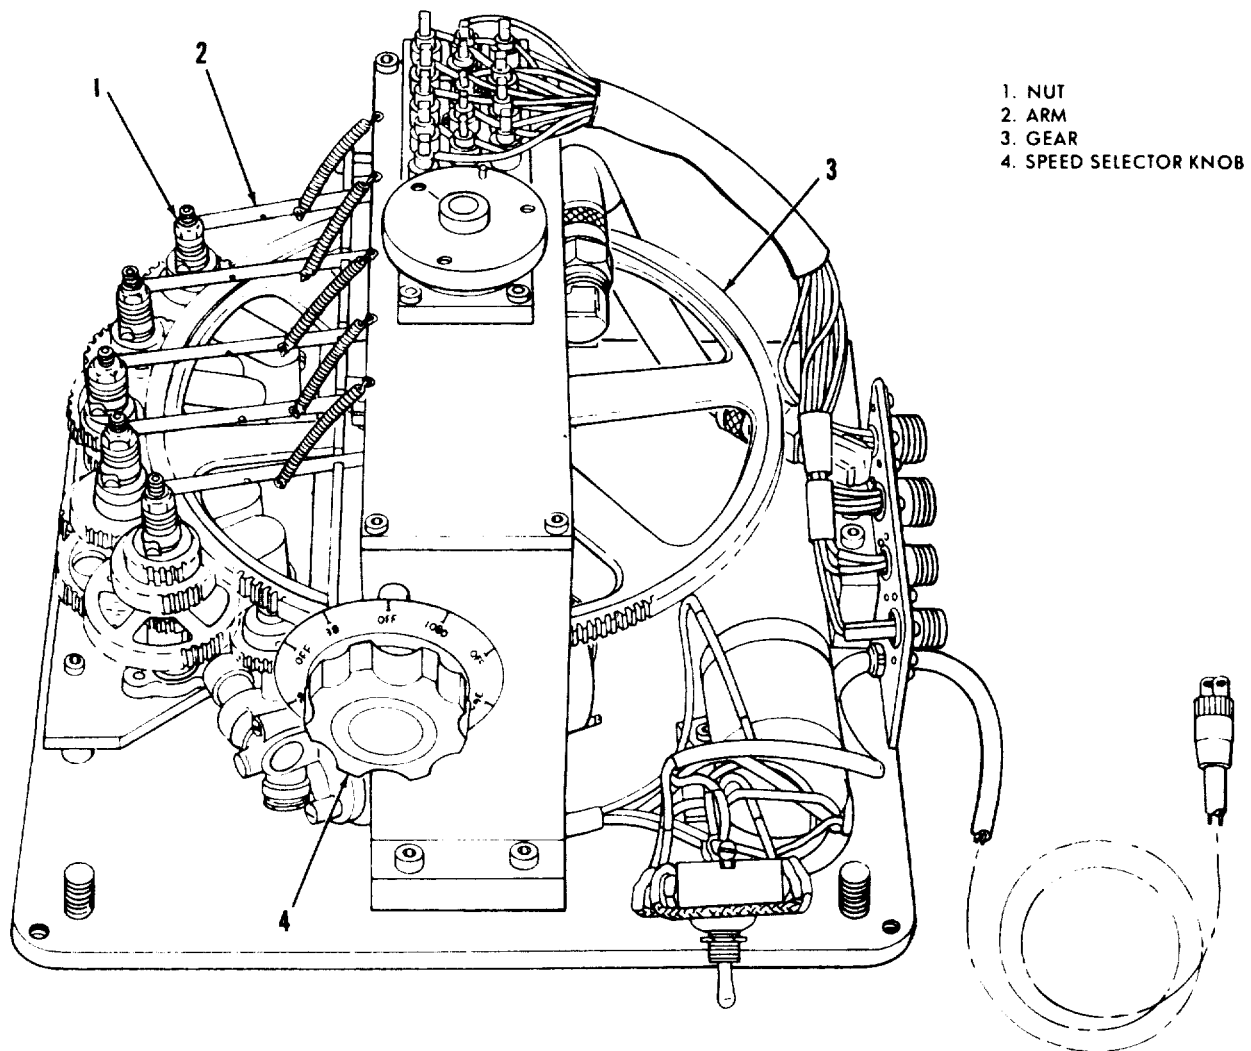

Figure 8. Clutch adjustment.
- (3) Loosen nuts (1, fig. 8) and remove arms (2 from gear and clutch assemblies (items. 72 through 76, fig. 6).
- bearing support (83) at front of tester kit instrument and tighten securely. Tighten corresponding right-hand screw securely. make sure camshaft (61) turns freely.
- (3) Install collar (58) on rear of camshaft (61) and secure with setscrew (57). Install speed selector knob (56) on front end of camshaft and secure with setscrew (55).
- (4) Install arms (2, fig. 8) and tighten nuts (1) sufficiently to retain arms. sure cam followers (66, fig. 6) align With corresponding cam fingers (63).
- (5) Install spacers (53) and guide (52) and secure with screws (51) sure arms (54) do not chafe on guide (52) and that cam followers (66) and cam fingers (63)
- (2) Install arms (54). Tighten clutch adjusting nuts (1, fig. 8) sufficiently to retain arms (54, fig. 6). Make sure cam followers (66) align with corresponding cam fingers (63). Install cotter pins (50) and springs (49).
- (3) Adjust clutches in accordance with paragraph 81.
- (4) Install case assembly (para 45b).